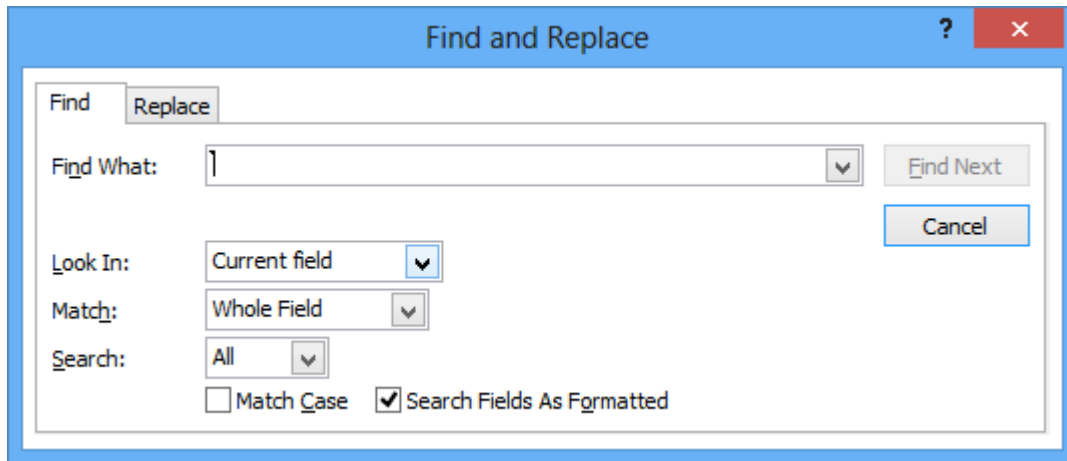

Figure 34: Find Tab of the Find and Replace Window
3. Activate the Find Box: Click the **Binocular** button  in the Find group on the ribbon to open the Find window. The *LastName* field appears as depicted in Figure 34.